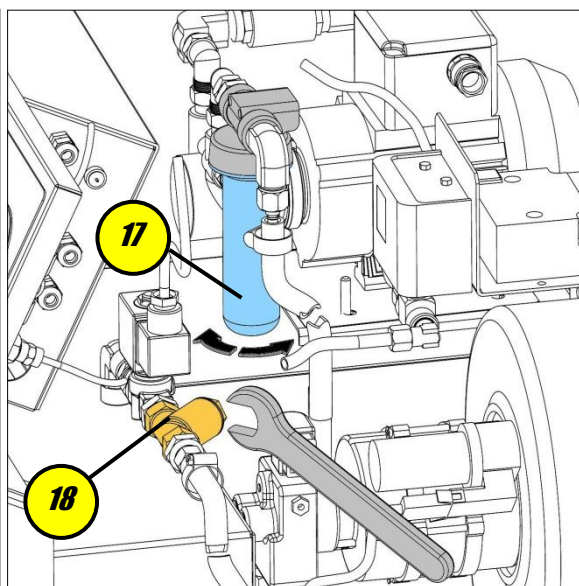

Figure 13
1. Water pump filter 17 (fig.13)
2. Solenoid valve filter (Y) 18 (fig.13)
- b. Unscrew the transparent “cup” 17 (fig.13)
- Unscrew the nut 18 (fig.13) using a M20 wrench (see fig 13). Remove the mesh component and clean it using a pressurized air cleaner.